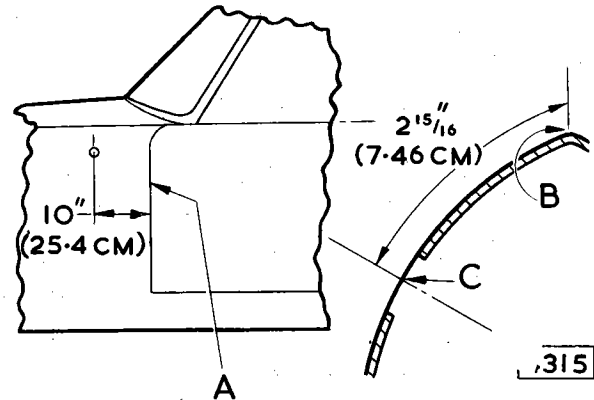

Fig. 121 Drilling instructions for radio aerial
5. Mark and drill 1in. dia. hole in drive side front wing to dimensions shown in Fig. 121.